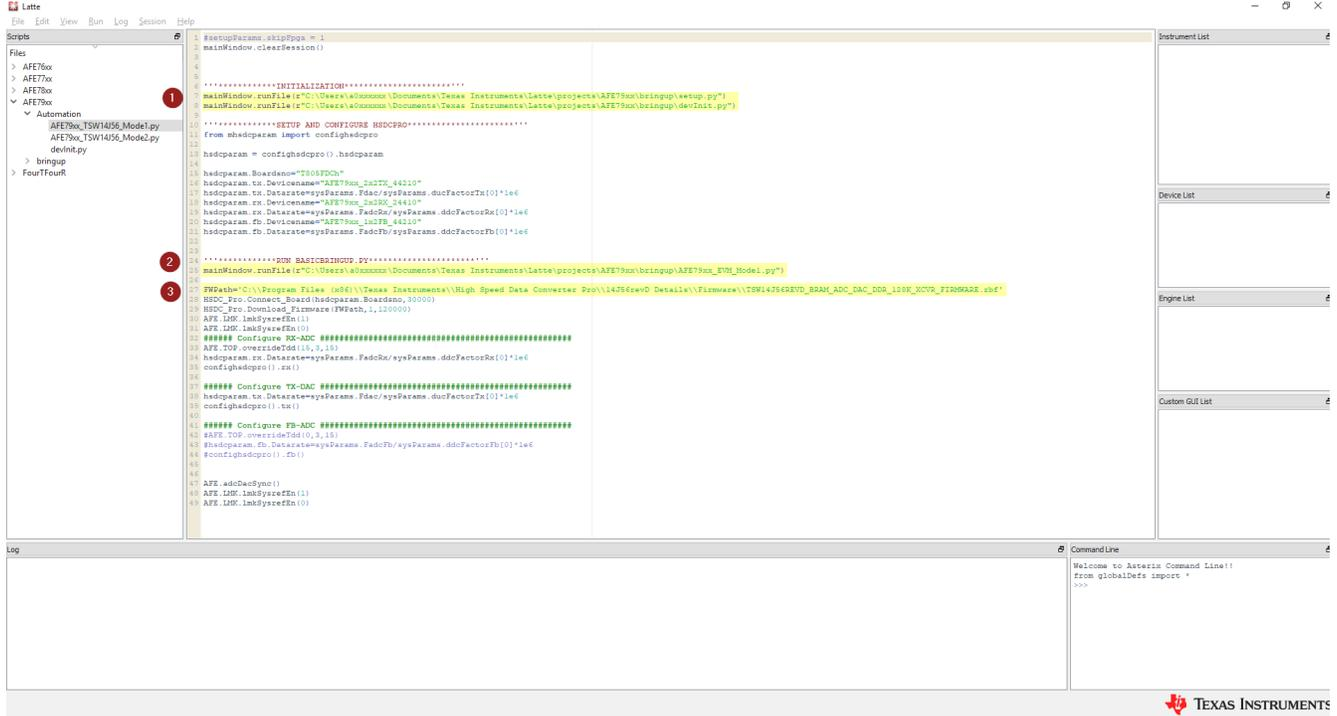

Figure 4-4. Directory Parameter to be Changed in the Automation Script
6. As shown in Figure 4-4, change item #1 and #2 to reflect the location of the Latte install directory for the setup.py and devInit.py. Usually the area where a0xxxxxx must be replaced with the Windows user ID login.
7. As shown in Figure 4-4, change item #3 to reflect the location of the High-Speed Data Converter Pro directory for the TSW14J56 firmware.